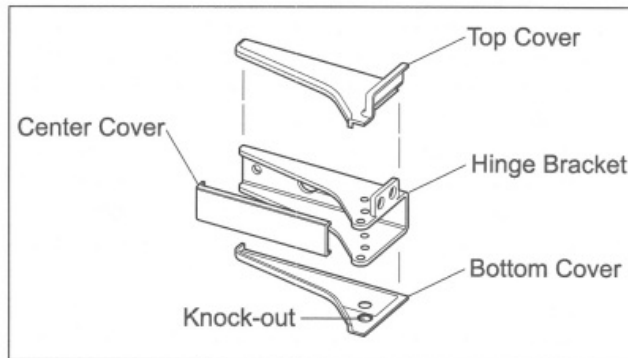

Figure 2-11. Hinge Cover Installation
- If the 90 stop pins are installed, it will be necessary to remove the knock-outs from the hinge cover opposite the head of the pin. (See Figure 2-11)
1. Remove backing paper from adhesive pads of upper and lower hinge covers, then adhere covers to top and bottom of each hinge bracket as shown in Figure 2-11.